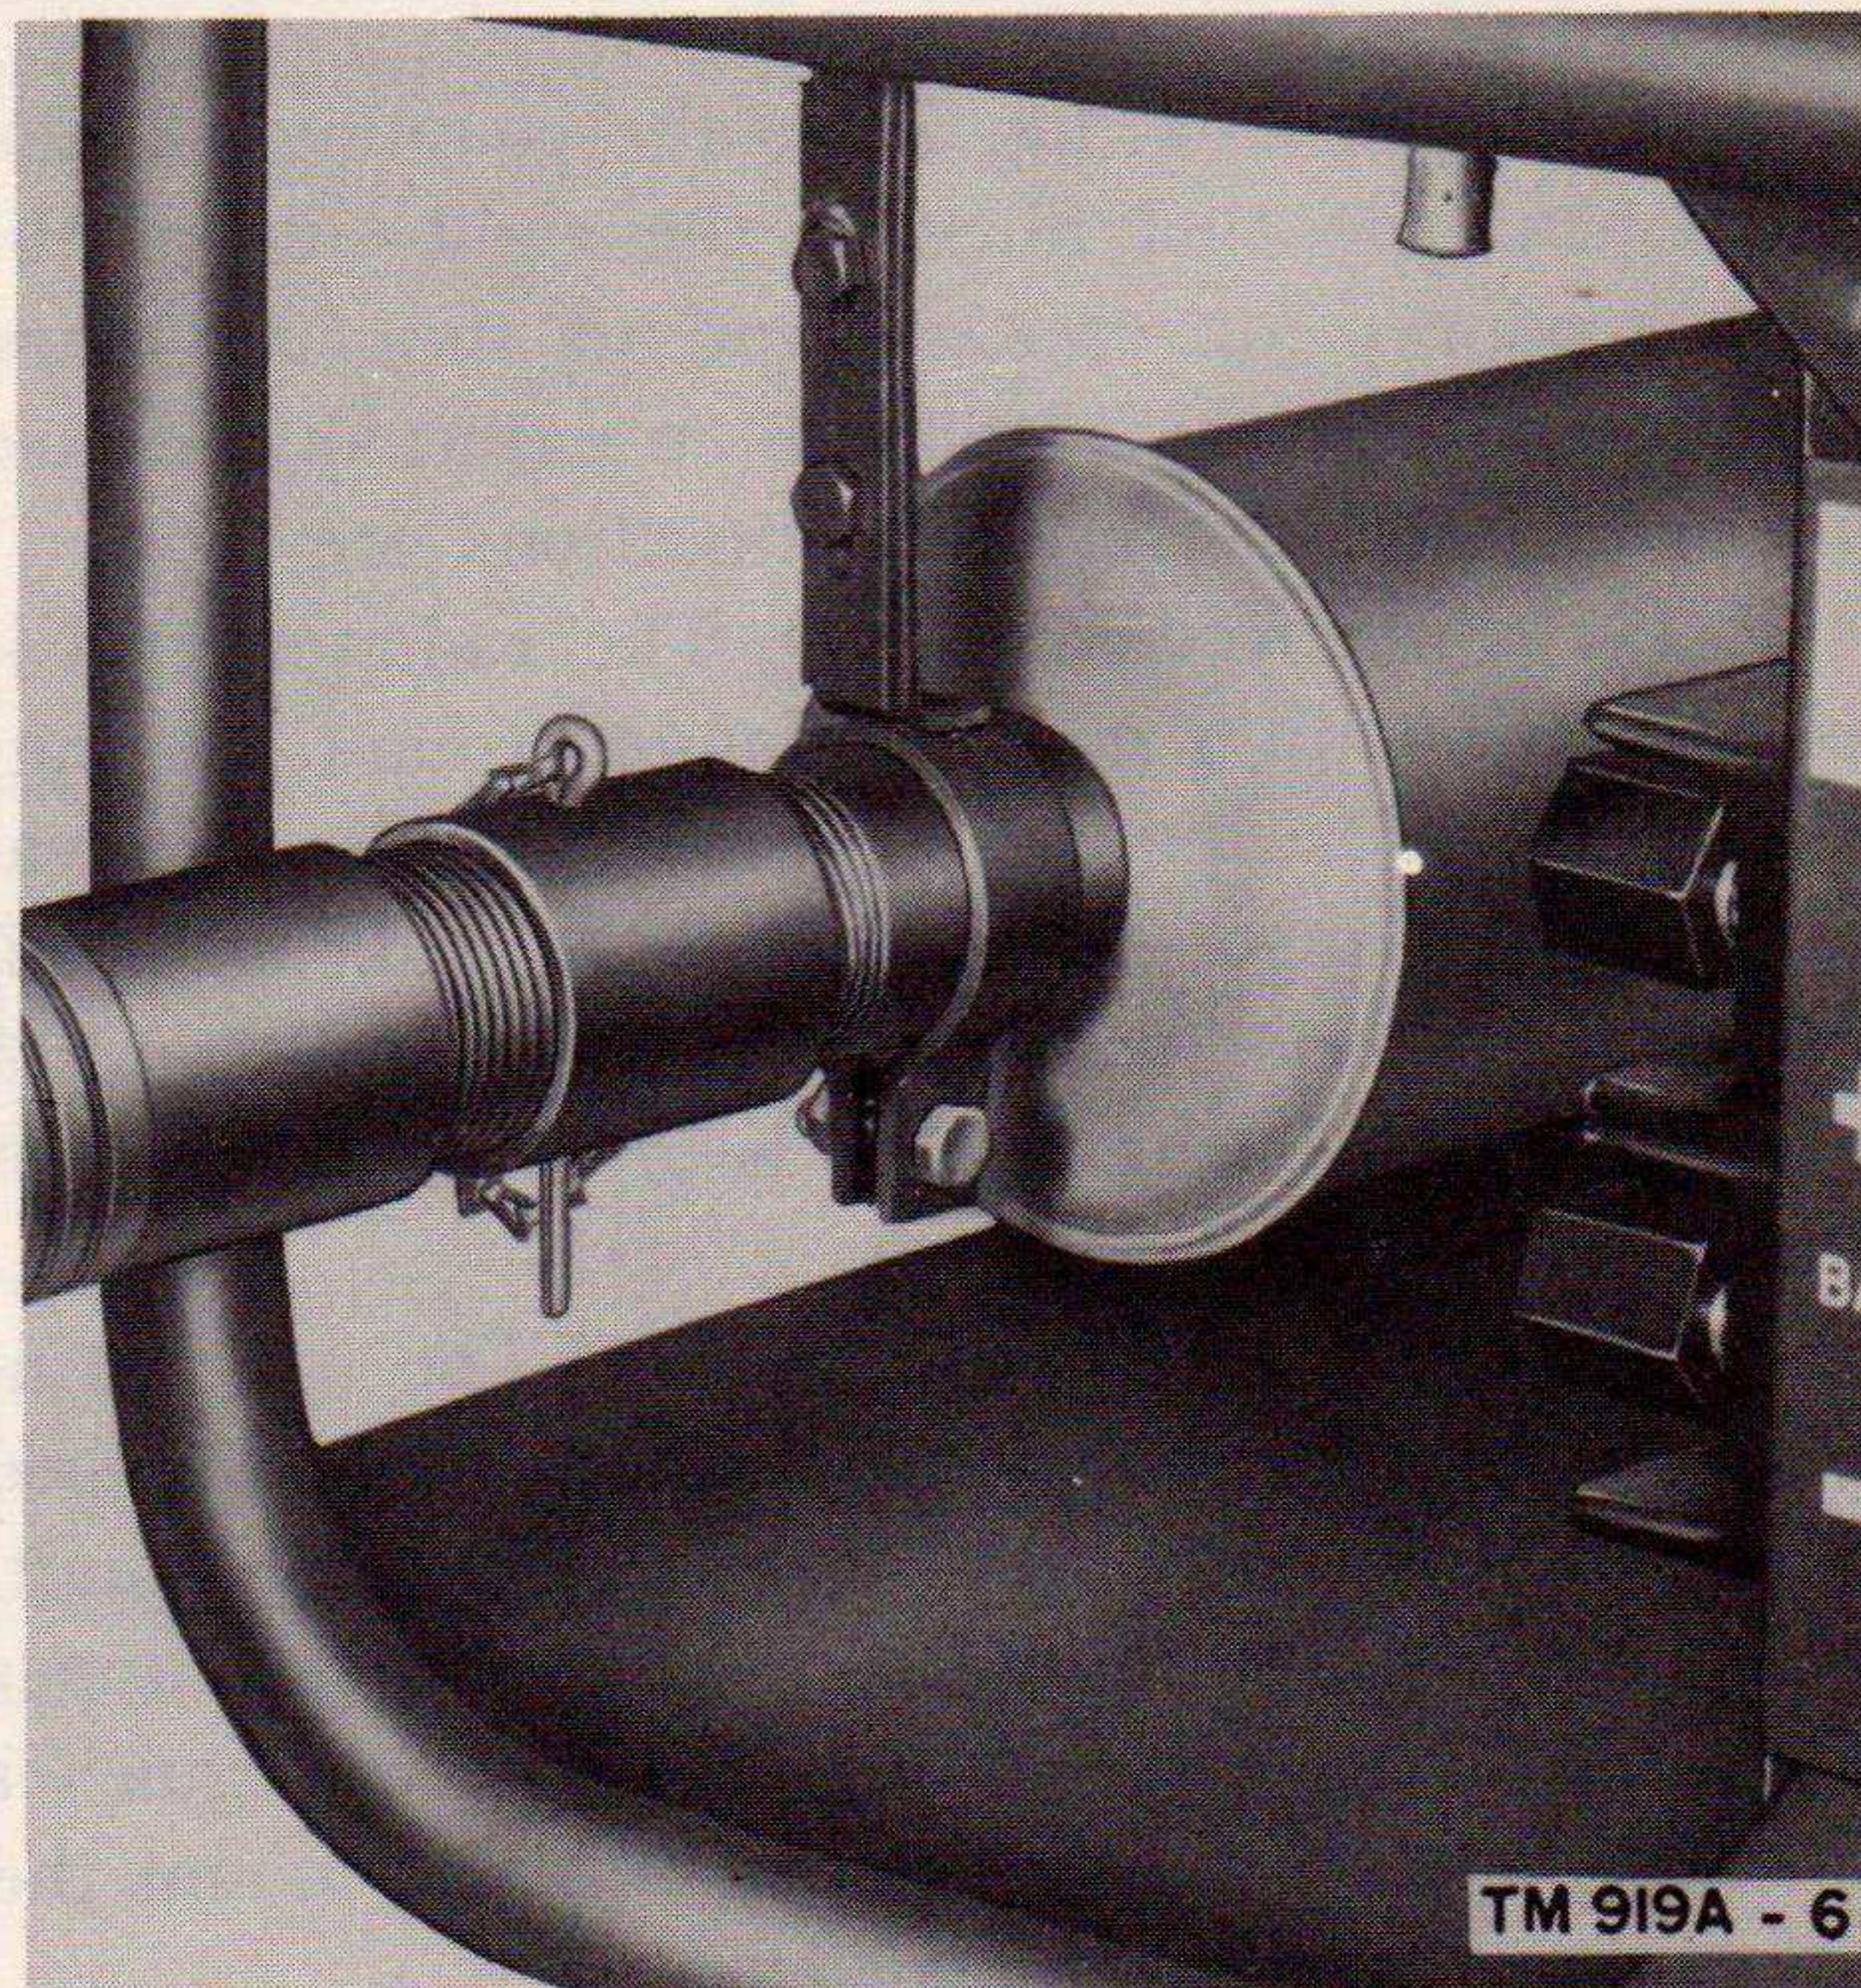

Figure 6. Exhaust tube connection to muffler.
*a. Mounting on Foundation.* Determine whether the equipment is to be installed indoors or outdoors, and follow the instructions in subparagraphs (1) or (2) below, as applicable.
- (1) For permanent indoor installation, fasten the set to the floor or foundation. Four holes are located in the mounting pads on the bottom four corners of the lower frame. Fasten the set to the floor with ½-inch bolts or lag screws of proper length.
- (2) For outdoor installation, locate the set on level ground. If this is impossible, the alternator end of the set must be the lower end.
*b. Connecting Exhaust Tube.* For indoor operation, connect the exhaust extension tube to the muffler (fig. 6). Extend the tube to an exterior wall by the most direct route with as few turns as possible. Pitch the tube downward so all condensate will